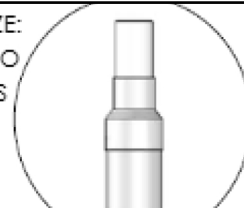

Figure 24 - Transitioning from 3" to 2" Vent Pipe
4. For 2" installations, install the reducing coupling in a vertical section of pipe. At least a 6" length of 3" pipe MUST BE INSTALLED before reducing to 2". See Figure 24.